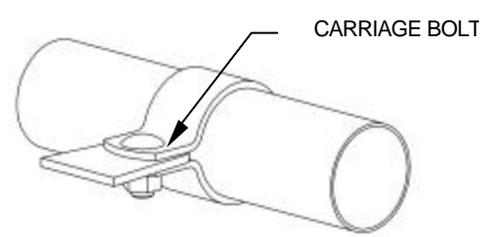

FIGURE 2
10. Slide the tube clamp over the headpipe support bracket installed in step 5 capturing the mount on both sides (see figure 2). Insert the supplied 3/8 carriage head bolt from top to bottom thru the clamp, washer and into the locknut but **DO NOT TIGHTEN** at this time.